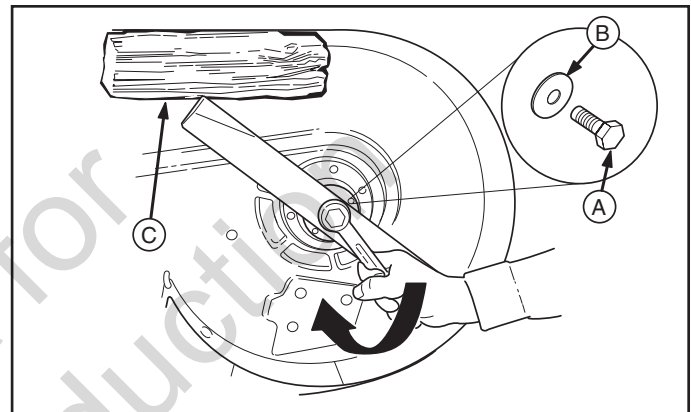

Figure 25
3. Remove capscrew (A, Figure 25), spring washer (B) and blade.
6. Reinstall the blade (Figure 25) with the airlifts pointing up toward the mower deck as shown.
7. Reinstall the spring washer (B) and capscrew (A). Use a wooden block (C) to prevent blade rotation while tightening the capscrew to 50-60 ft-lbs (68-81 Nm).